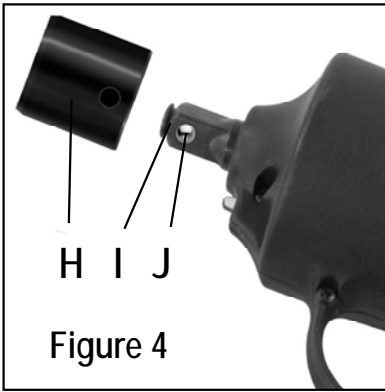

Figure 4
Select the appropriate size socket (H) to fit the wheel lug nut. Attach the socket to the impact wrench by pressing it on to the Anvil (I). For best results, use only the sockets that came with this wrench. Be sure the spring-loaded pin (J) on the Anvil lines up with the matching hole on the socket securing the socket firmly to the impact wrench. (Figure 4)